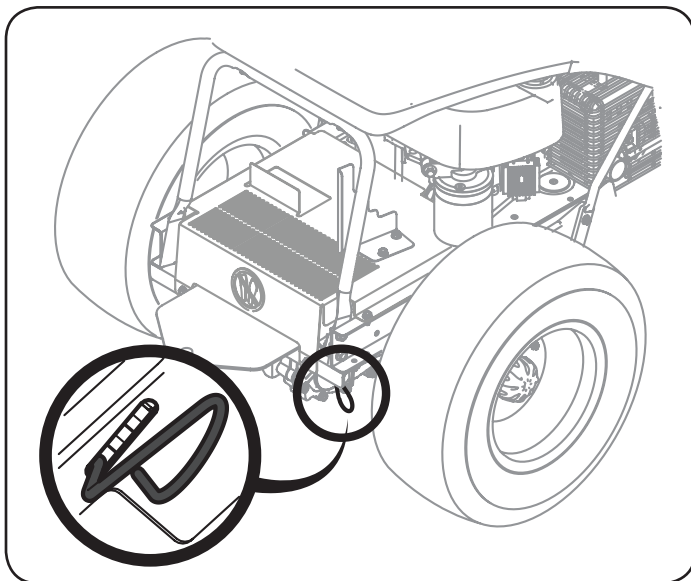

Figure 1
2. Disengage the transmission bypass rod by lifting up and allowing it to return to its disengaged position after manually moving the tractor. See Figure 1.